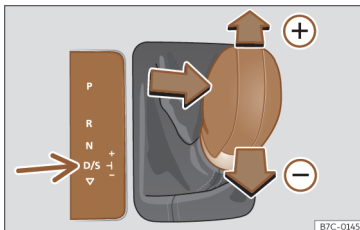

Fig. 93 Centre console: changing gear with tiptronic
- Move the lever forwards (+) or backwards (-) to change up or down a gear >>> **Fig. 93**.